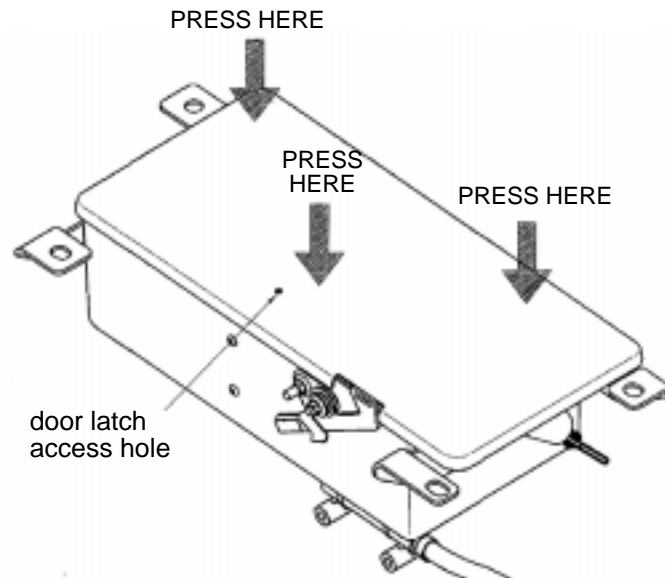

Figure 10 - Closing the Door on the FWD Flight Attendant Mask Assembly
- Step 8. Press on the 2 hinge side corners of the door and then along the edge of the door to seat the hinges as shown in Figure 10.